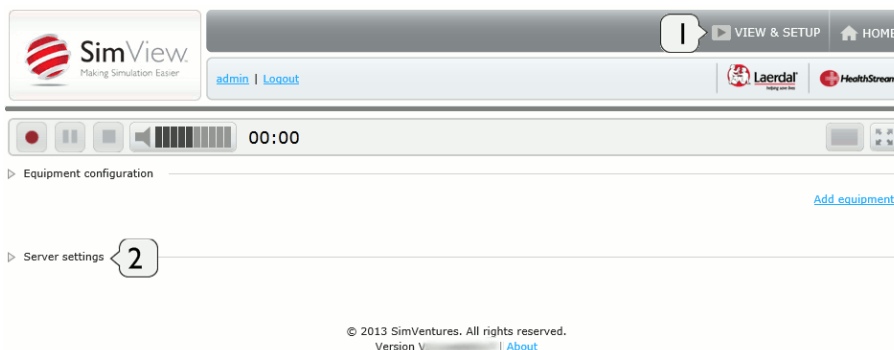

Figure 4
5. Click the User type radio button (2) to give the user a role.
6. Click the Create button (3)
7. Close the input window by clicking the VIEW & SETUP button ((1) on Figure 4)